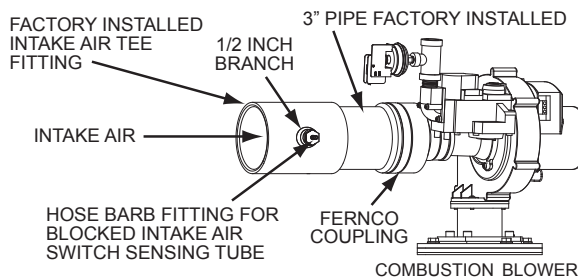

Figure 19. Intake Air Connection
15. If installing two- or four-inch intake air pipe, transition to three-inch pipe at the intake air connection on the water heater as shown in *Figure 19*. The field-installed three-inch pipe between the intake air connection and the reducer coupling should be 18 inches (45 cm) or less in length.